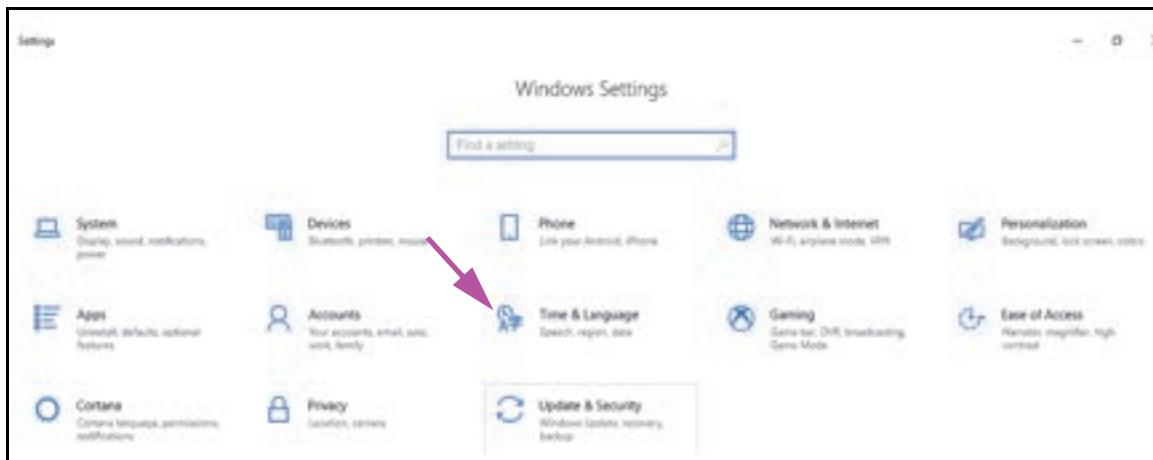

Figure C-6. Windows 10 Settings Window
3. Click on the **Windows Start** icon and select **Settings** from the menu. The Windows Settings window is displayed. See Figure C-6.
4. On the Windows Settings window, click on **Time and Language** (see Figure C-6).